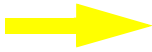

Figure 3-15 Removing Handle retaining Plate
1. With Main Processor Subassembly removed from rear housing, place housing backside down on clean flat surface. See Figure 3-15
2. Insert common-blade screwdriver or flat end of side panel removal tool sequentially into each of two slots, ③ and ④ in Figure 3-15, as you apply a slight downward pressure on handle (see arrow).